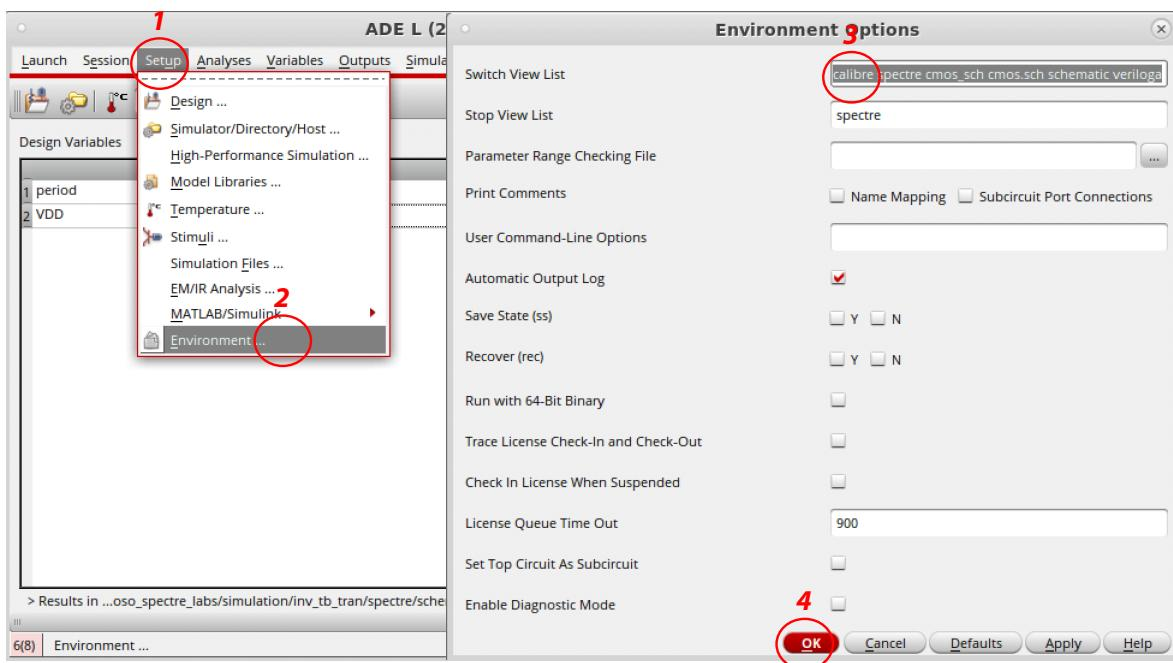

Figure 21: ADE L environment options.
4. To take into account the parasitics of your layout, we need to tell ADE to consider the parasitics in the simulation. To do so, go to the ADE window and go to: *Setup -> Environment* and add the **calibre** view in first in the *Switch View List*, as shown in Fig 21.